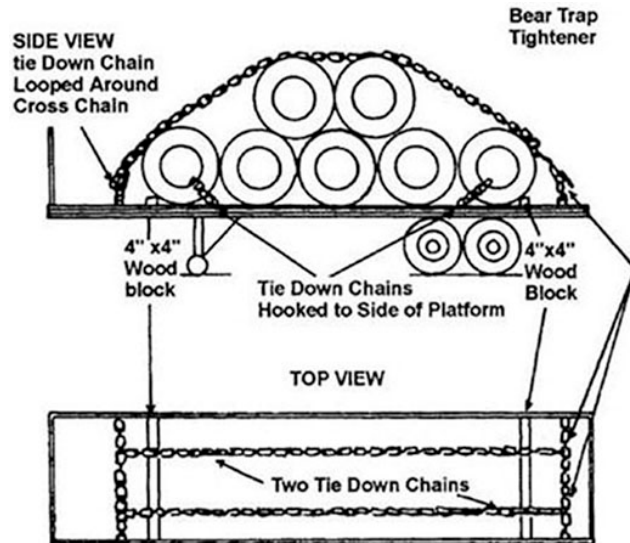

Figure 2-10. Loading barrels and drums on vehicle bed.
- Load barrels and drums on their sides parallel to the length of the truck or stand them upright (fig. 2-10). If you load them on their sides, block and build a pyramid to secure them. Block or tie upright barrels to prevent their shifting or overturning.